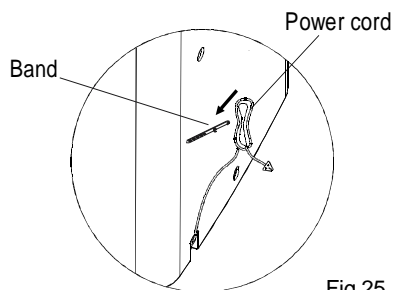

Fig.25
- Stop the appliance and unplug it, wrap the cord and bundle it with the tape(Fig.25). Remove the batteries from the remote controller.